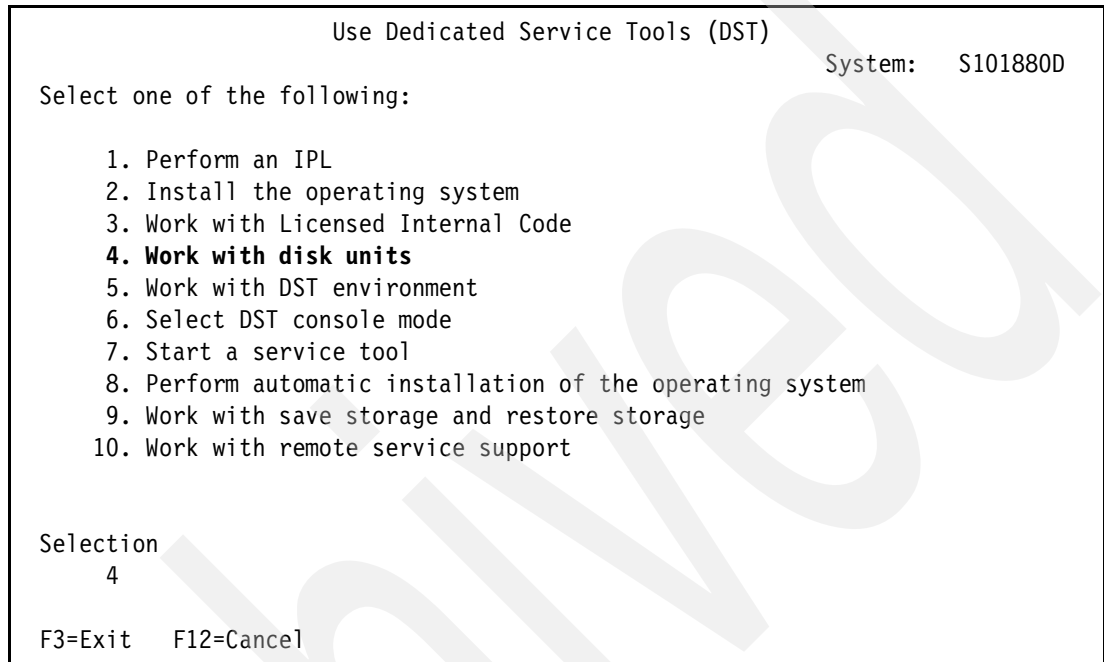

Figure 5-51 Using Dedicated Service Tools panel
1. From the DST menu (Figure 5-51), select **4. Work with disk units**.